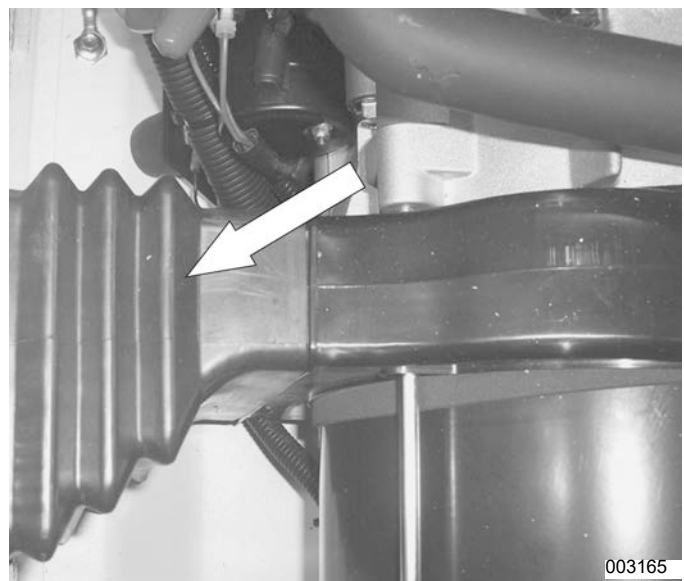

Figure 4-54.
23. **Alternator Air Intake Bellows Removal:** See Figure 4-54. Remove alternator intake bellows.